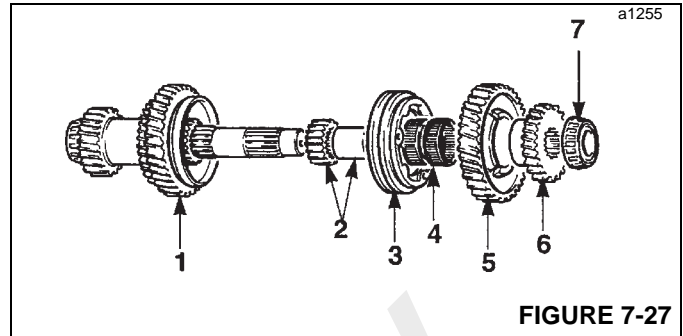

FIGURE 7-27
1. Smear bearing surface with a Lithium Base, E.P. No. 2 bearing grease and install 2nd gear and synchro cup (1, Figure 7-27) onto the lay shaft.
2. Press 2nd gear synchro-hub and 1st gear needle roller bearing sleeve (2) onto the layshaft.
3. Install 1st/2nd synchro unit (3) the correct way to match the cups.
4. Slide 1st gear needle roller bearings (4) over the sleeve. Be sure to coat the bearings with oil.
5. Install 1st gear (5) over the needle roller bearings.
6. Slide spacer (6) over the shaft splines. Illustration shows a gear (6) which is only used on a 4WD transmission. The transmission being serviced is a 2WD transmission.
7. Press bearing (7) onto assembled layshaft and coat bearing with grease.